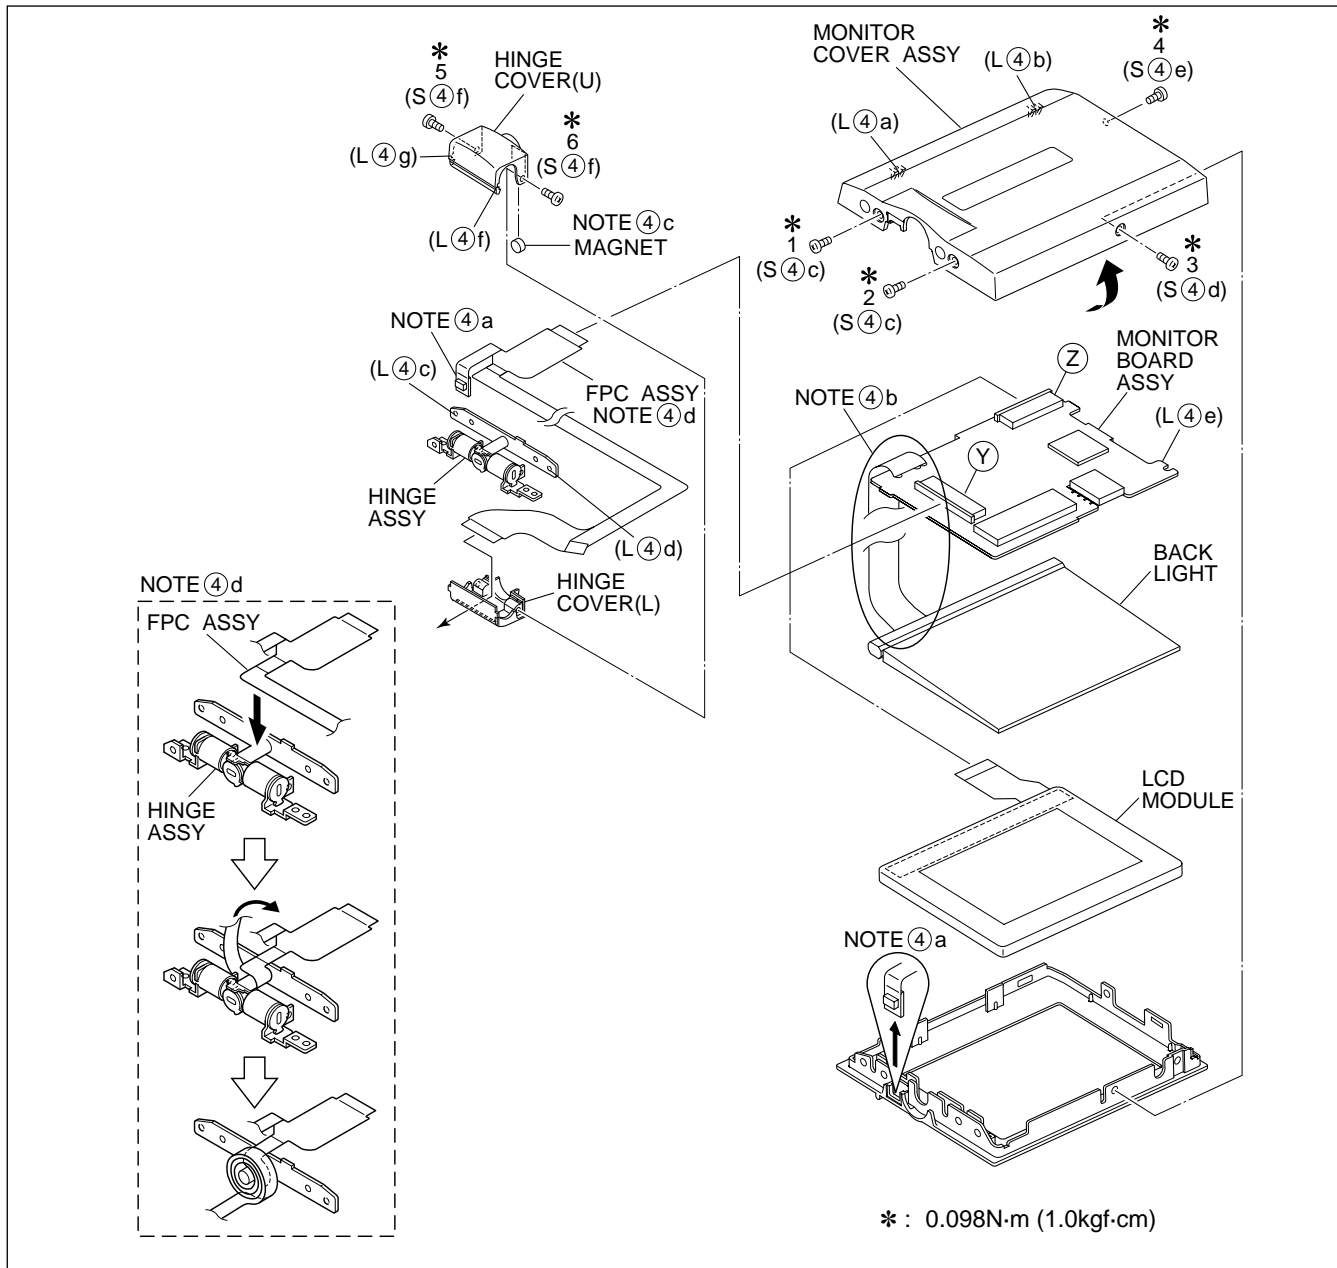
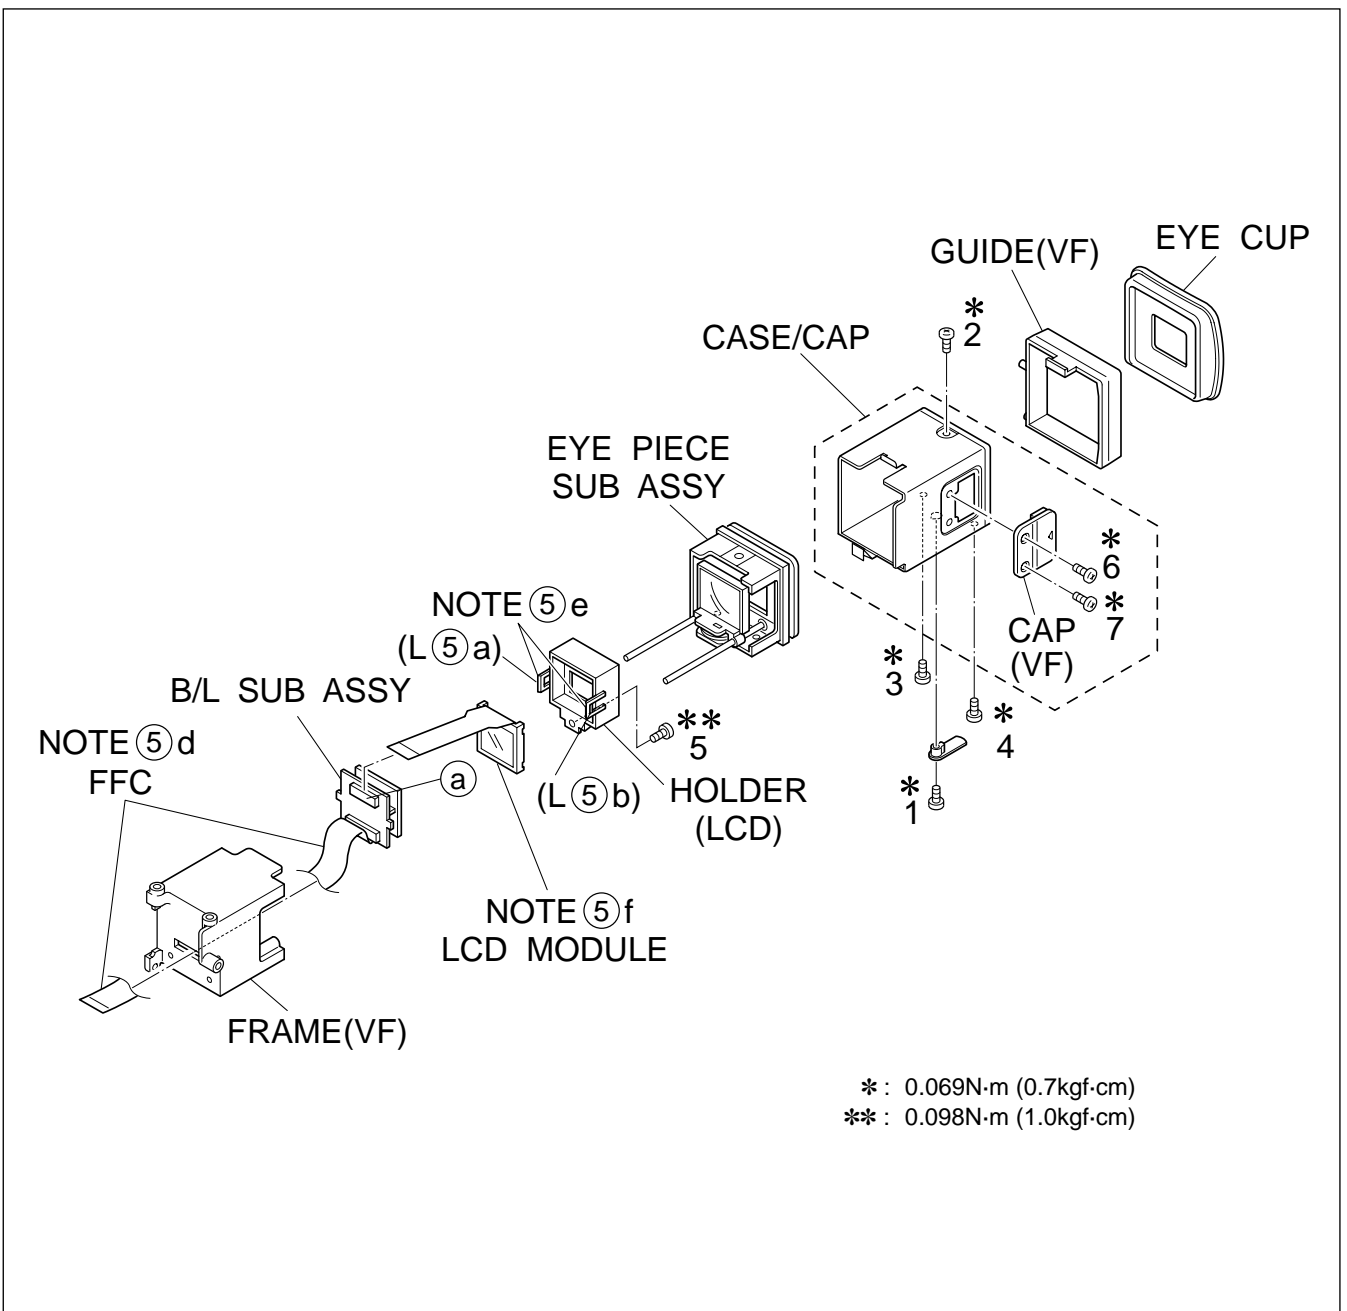
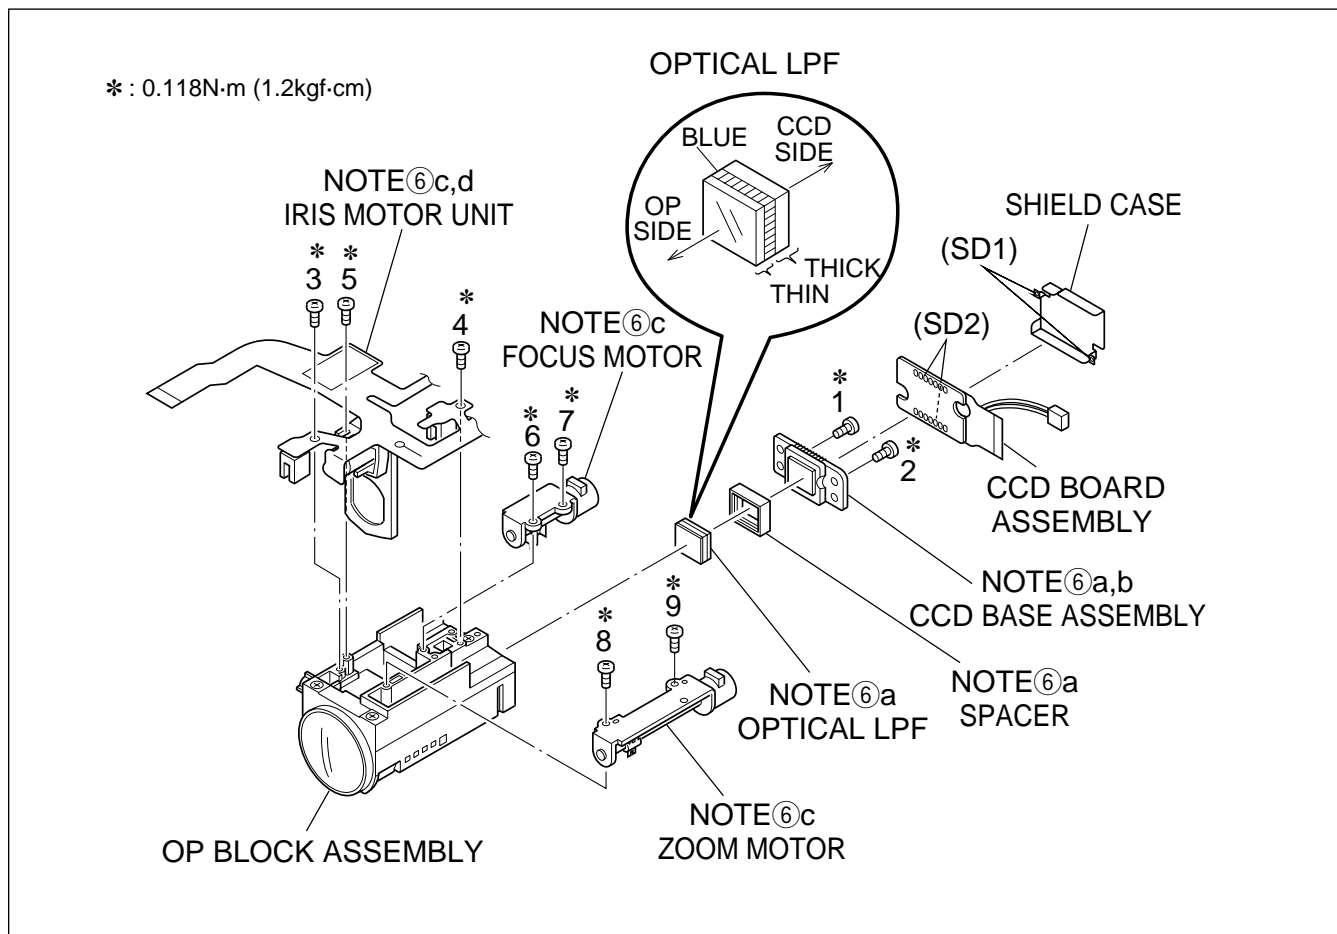

Fig. 1-4-1
Fig. 1-5-1
Fig. 1-6-1
- Note③a:** When removing, be careful not to break the wire.
- Note③b:** When removing, be careful not to damage any part. On removing, slightly open the front side so as to shift it from the frame.
- Note④:** For disassembling method, refer to Fig. 1-4-1.
- Note⑥a:** When removing, be careful not to break the wire.
- Note⑥b:** Remove the board assembly (MAIN/MDA) and mechanism assembly together.
- Note⑥c:** When installing, arrange the wire between the OP block assembly and VF assembly.
- Note⑦a:** When removing, be careful neither to break the wire nor to damage any part.
- Note⑦b:** For disassembling method, refer to Fig. 1-6-1.
- Note⑧:** Be careful not to get an electric shock during the work.
- Note⑨:** When reassembling, carefully arrange the wire.
- Note⑩a:** When disassembling/reassembling, be careful not to damage any part.
- Note⑩b:** When reassembling, set the bracket (top) as the VF unit is pulled out, and secure the installation in order of (L⑩a) and (L⑩b).
- Note⑩c:** For disassembling method, refer to Fig. 1-5-1.
- Note⑫a:** When disconnecting the connector, carefully handle the FPC on the top of the connector.
- Note⑫b:** Disconnect the connector ㉓ last, because it is positioned inside.
- Note⑬:** When reassembling, carefully locate the FPC so that it is sandwiched between the mechanism assembly and MAIN board assembly.